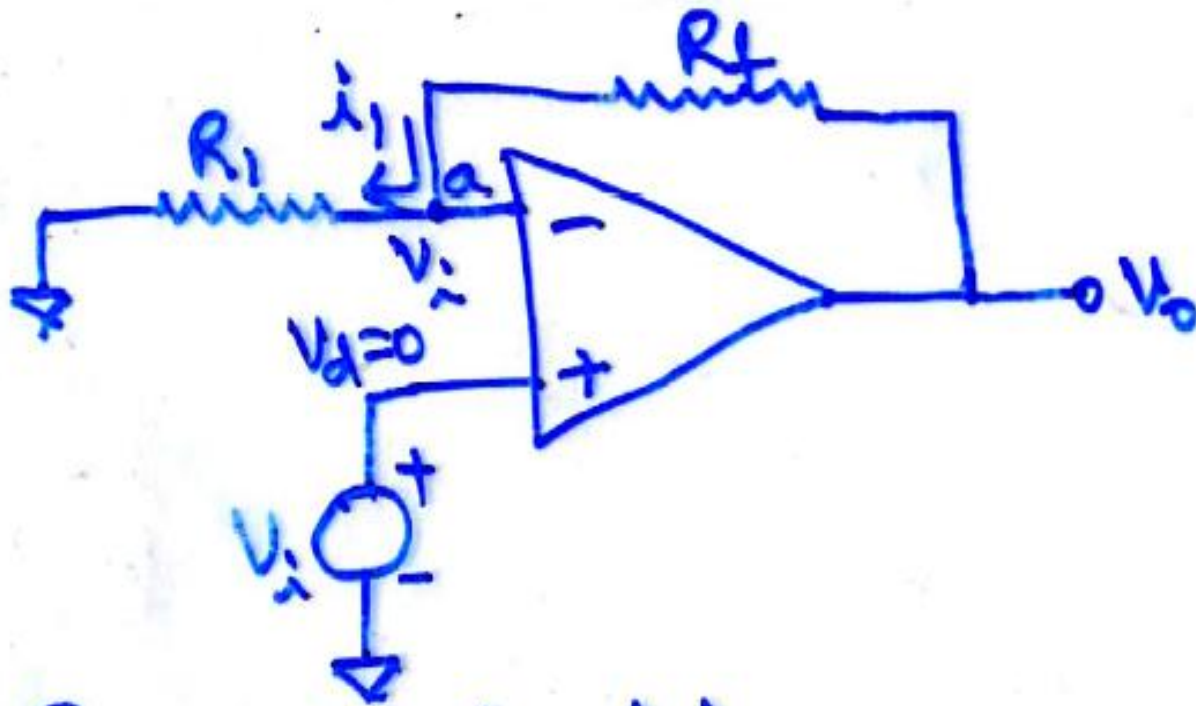

Fig 2-7(a) closed loop non-inverting amplifier.
- If the signal is applied to the non-inverting input terminal and feedback is given as shown in Figure 2.7(a), the circuit amplifies without inverting the input signal. Such a circuit is called non-inverting amplifier.
- As $V_d=0$, the voltage at node 'a' in Figure 2.7(a) is V_i . Now R_1 and R_f forms a potential divider.